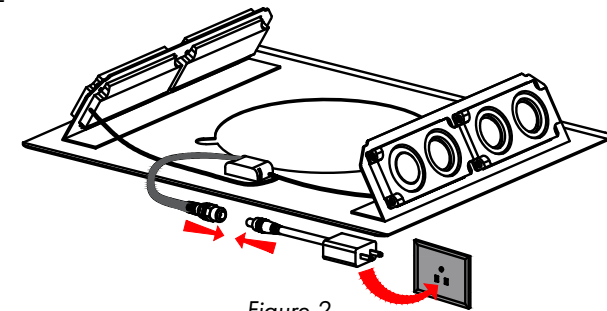

Figure 2
- Attach ducting and electrical connections. Plug the speakers into an outlet behind the chimney. When the connection is successful, a chime will sound. *Figure 2*